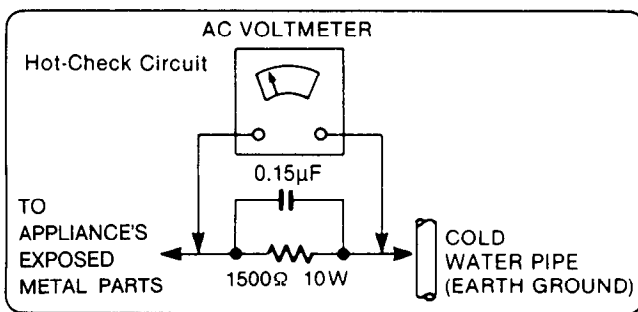

Figure 1
LEAKAGE CURRENT HOT CHECK (See Figure 1)
2. Connect a 1.5k ohm, 10 watts resistor, in parallel with a 0.15µF capacitor, between each exposed metallic part on the set and a good earth ground such as a water pipe, as shown in Figure 1.